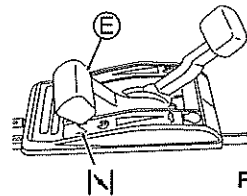

Fig. 11
- 3 Set Throttle lever (E) to Choking "N". (See Fig. 11)